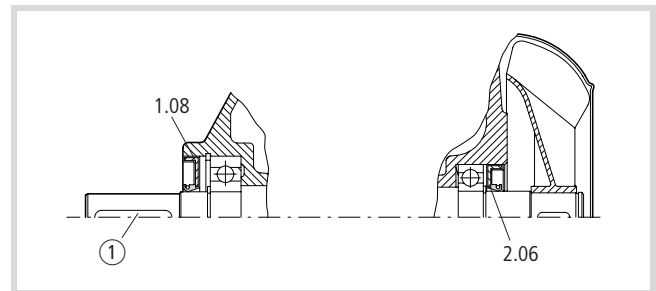

Figure 28: Shaft seal
- ▶ Fit the DE (1.08) and NDE (2.06) shaft end seals in the housing as follows (→ Fig. 28):
- ▶ Support the shaft and insert the featherkey ① in the drive end of the shaft.